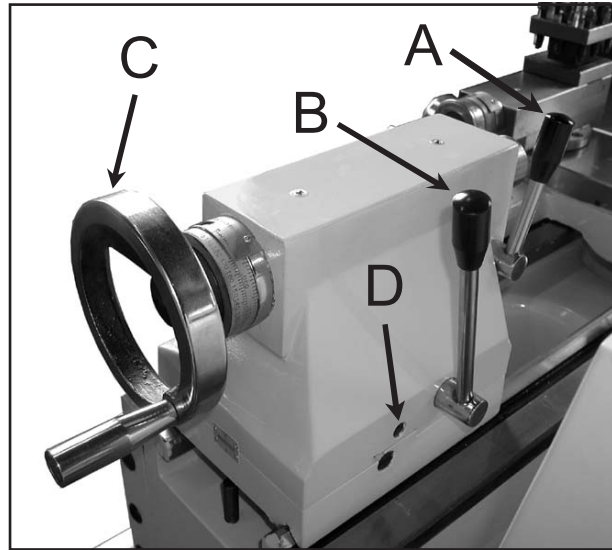

Fig. 15
16. Tailstock Quill Clamping Lever (A, Fig. 15) - located on the tailstock. Lift up to lock the spindle. Push down to unlock.
17. Tailstock Clamping Lever (B, Fig. 15) - located on the tailstock. Lift up lever to lock. Push down lever to unlock.
18. Tailstock Quill Traverse Handwheel (C, Fig. 15) - located on the tailstock. Rotate clockwise to advance the quill. Rotate counter-clockwise to retract the quill.
19. Tailstock Off-Set Adjustment (D, Fig. 15) - two hex socket cap screws located on the tailstock base are used to off-set the tailstock for cutting tapers. Loosening one screw while tightening the other off sets the tailstock.